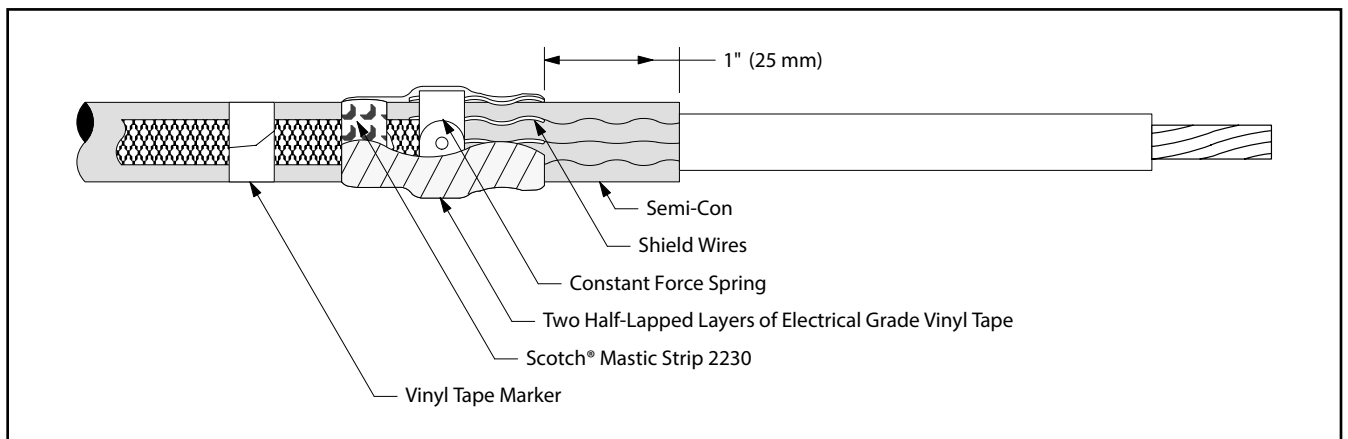

Figure 22
13.5 Wrap two highly stretched half-lapped layers of electrical grade vinyl tape around mastic seal, constant force spring and exposed shield wires (*Figure 22*).